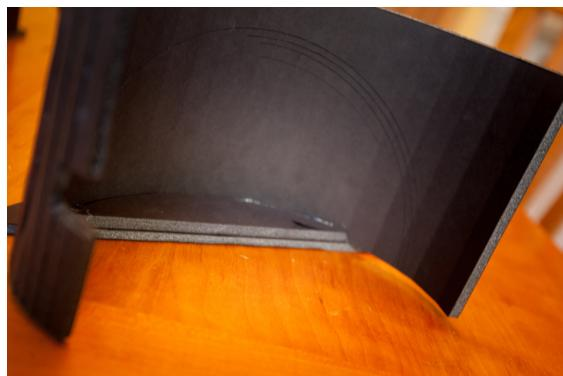

Figure 7-12 The disk support wall glued to the guide and the foot (note the notch on one side for the Arduino's USB jack)
5. Use the glued-on guide arc to position the scored disk support wall. Center the wall and glue it around the guide. You may need to cut a notch in one end of the wall to allow for the USB jack on the Arduino (Figure 7-12).